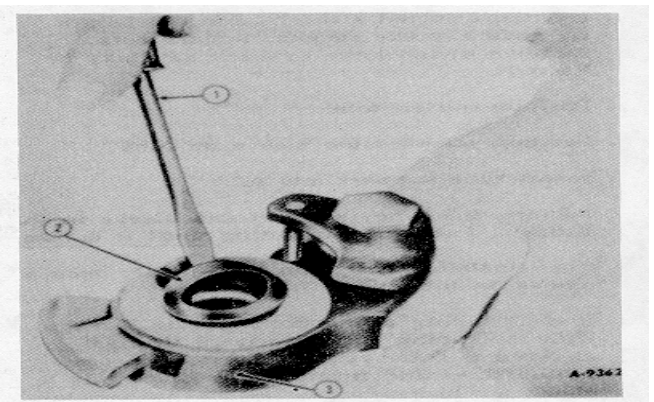

Fig. 9 Using Screwdriver to Complete Packing Ring Installation
4. Work the remaining part of the packing ring into place with a blunt nosed screwdriver or similar tool (Fig. 9). Exposed face of packing ring will be flat and free of any bulges when properly installed.